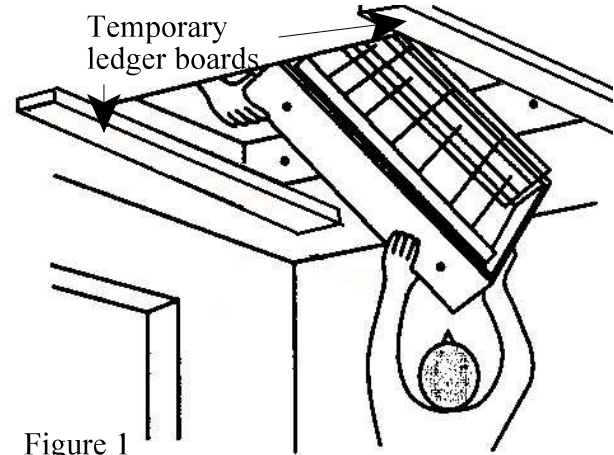

Figure 1
3. Install temporary support ledgers. Using 2 ½" wood screws (not included), attach 1 x 4 temporary support ledger boards at both ends of the opening to provide temporary support for the stairs during installation. These boards must be a minimum of 6" longer than the width of the rough opening in the ceiling. To prevent splitting, pre-drill the holes for the wood screws. These boards are to provide a ¾" ledger inside of the opening. If installed more in the opening, the ledger boards will interfere with the stair cover (Fig. 1).